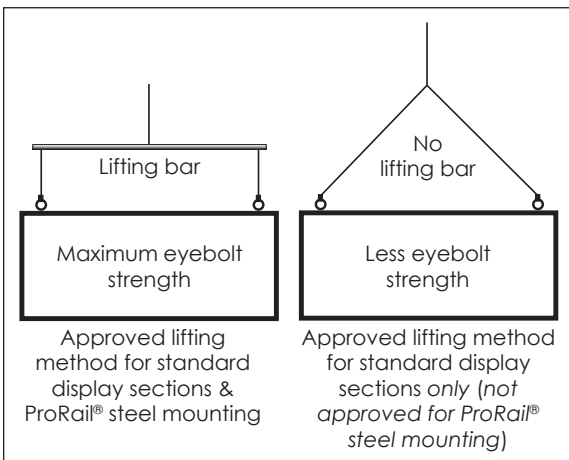
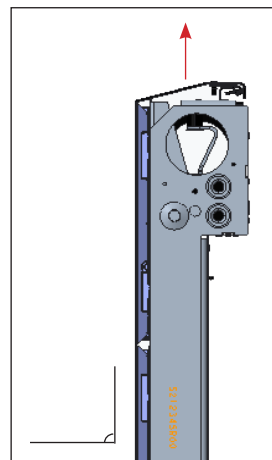

Figure 3: Lift Display
Figure 4: Lift Angle
1. Lift the display sections from the shipping crate using only the supplied lift eyes. A spreader beam is recommended when lifting but is required when ProRail® steel is attached. Refer to **Figure 3**, **Figure 4** and the **RTN-3000 Series Section Crating Quick Guide (DD5210836)** for details.